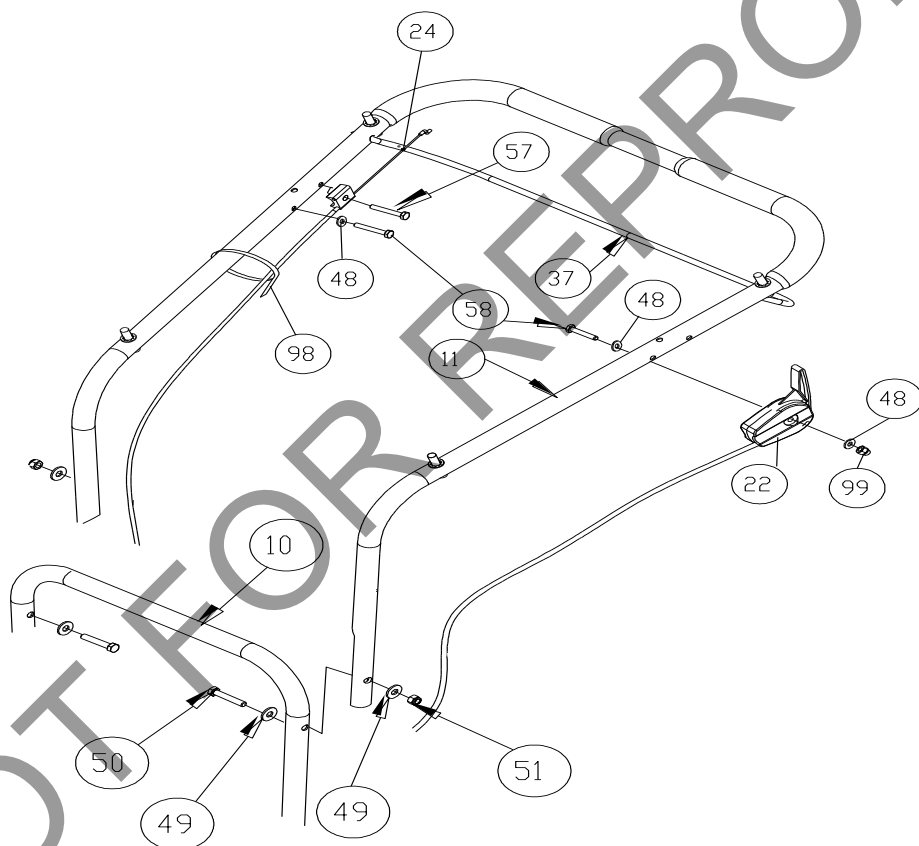
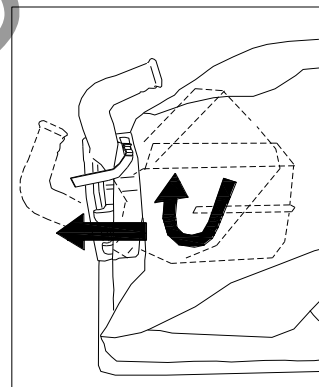

Fig. 1
Fig. 2
1. **ASSEMBLE** the upper handle (item 11), with the hardware from the parts bag (items 50, 49, and 51) to the lower handle (item 10). Tighten the hardware securely. (See Fig. 1.)
2. **ATTACH** the throttle lever (item 22) to the handle (Left hand side for Honda. Right side for Briggs and Stratton.) with the hardware from the parts bag (items 58, 48, and 99). Secure the cable with the Ty-Wrap (item 98).
3. **ATTACH** the clutch cable (item 24) to the inner right side of the handle with the hardware (items 99, 48, and 57). Then attach the end of the cable to the bail. After it is attached, check to make sure it is functioning properly.
4. **UNFOLD** the debris bag (item 21) and fasten bag neck to bag quick disconnect (item 12). Attach firmly to housing exhaust (item 1). (See Fig. 2 and 3.)
5. **ATTACH** bag to four posts (item 13), preassembled to upper handle.